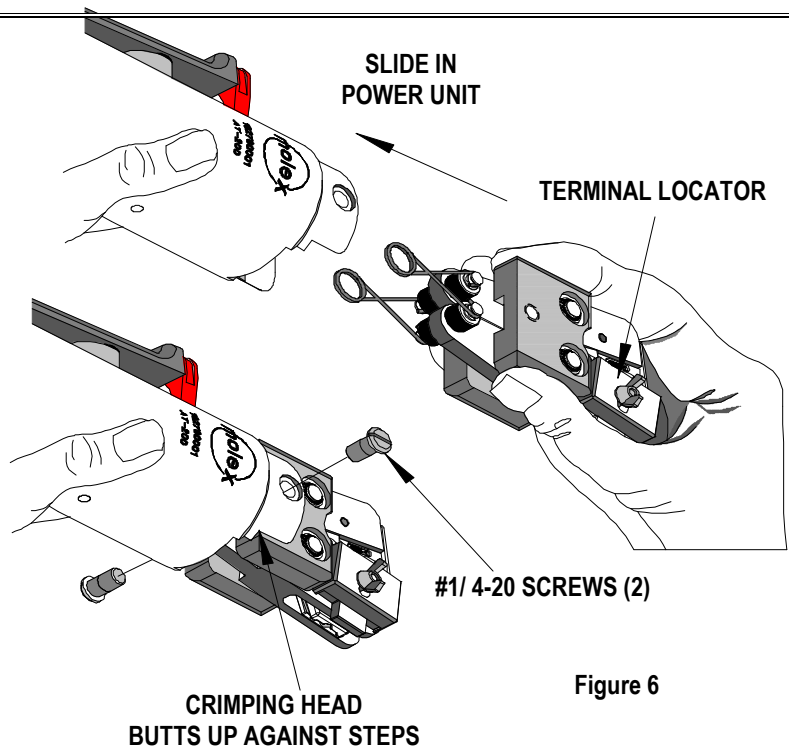

Figure 6
4. To replace the crimp tool head, hold power unit in left hand as shown in Figure 6.
5. Grasp the crimp tool head with the right hand and with the terminal locator facing you. Slide the crimp tool head assembly into the body of the power unit until the side plates of the crimp tool head butt against the steps in the power unit. Be sure the jaw return springs clear the cam in the power unit. See Figure 6.
7. Replace the (2) #1/4-20 screws and tighten securely. The tool is now ready for use.